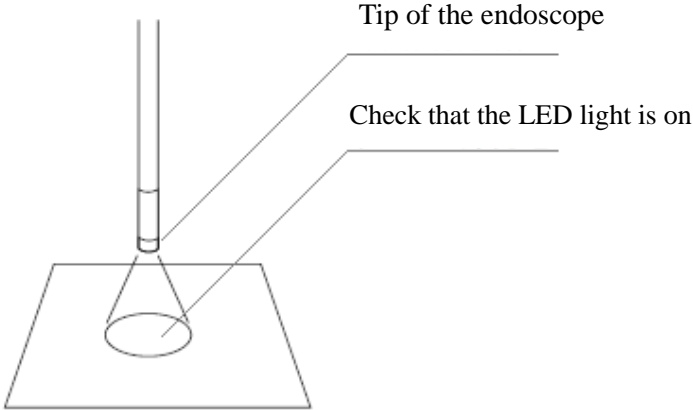

Figure 3.6
3. Confirm that the LED light at the tip of the endoscope is on. (As shown in Figure 3.6)